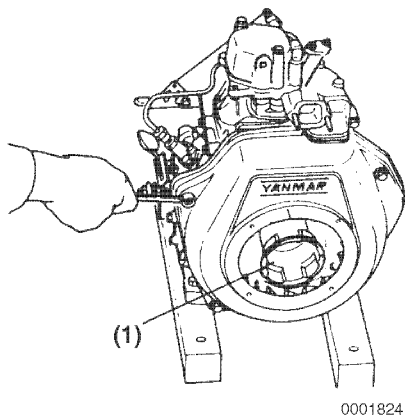

Figure 9-13
3. Remove the cooling fan housing (**Figure 9-13**).
4. Remove the starter pulley (**Figure 9-13, (1)**).